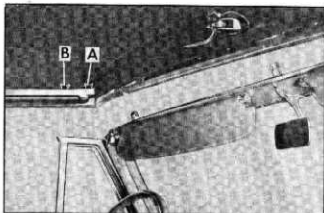

Fig. 49—Corner Brace Adjustment
2. Loosen two corner brace attaching bolts "A" and "B" (fig. 49).